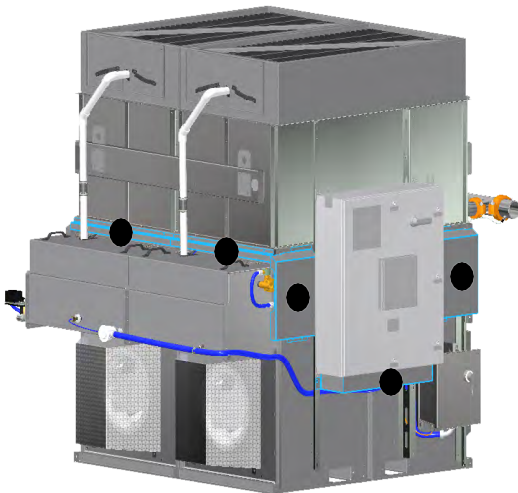

Figure 14. Location of Cover Panels Around the Touchscreen Control System Panel (Optional Basin Heater Shown)
1. Remove the rest of cover panels around control panel and above the spray water basin. Keep the hardware available for reinstallation of panels. See **Figure 14**.
11. round touchscreen control system panel, see **Figure 14**.